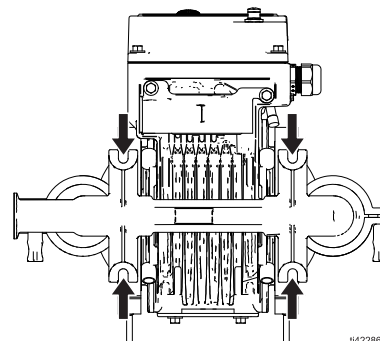

FIG. 6: Mounting Holes
Mount the pump to the mounting surface using fasteners through each hole of the feet. See FIG. 6.
3. For all mountings, be sure the pump is secured with fasteners through the mounting holes on the base. See FIG. 6. See **Dimensions**, starting on page 58.
To avoid pump damage, mount the pump to the mounting surface using fasteners through each hole of the feet. See FIG. 6.